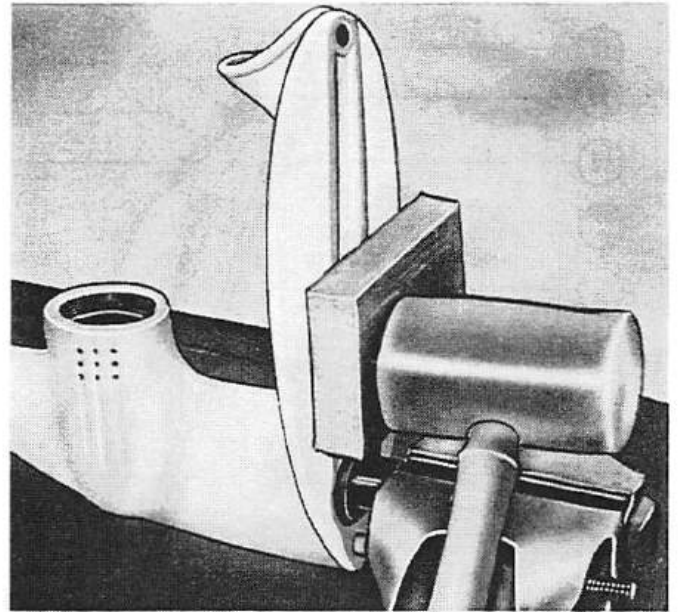

Figure 9. Removing Lower Drive Shaft
4. Remove short lower drive shaft by tapping on casing with mallet. (Figure 9)